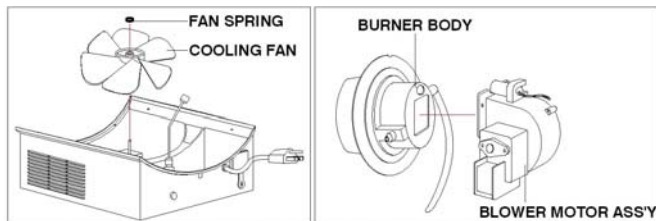

Figure 7. Fan Maintenance
- Remove all accumulated dust and dirt with a burst of condensed air (**Figure 7**).